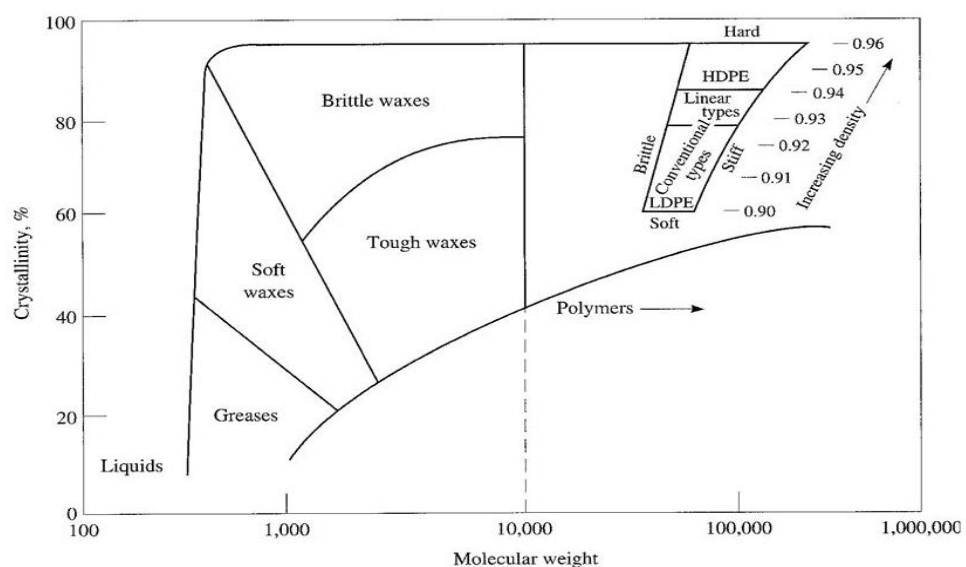

Figure 1b(ii): Relationship graph between molecular weight, crystallinity and density of PE-like materials.
- ii. Figure 1b(ii) shows any molecular weights more than 10,000; the materials are considered as polyethylene (PE) polymer. Based on the figure, interpret the relationship between molecular weight, crystallinity and density.